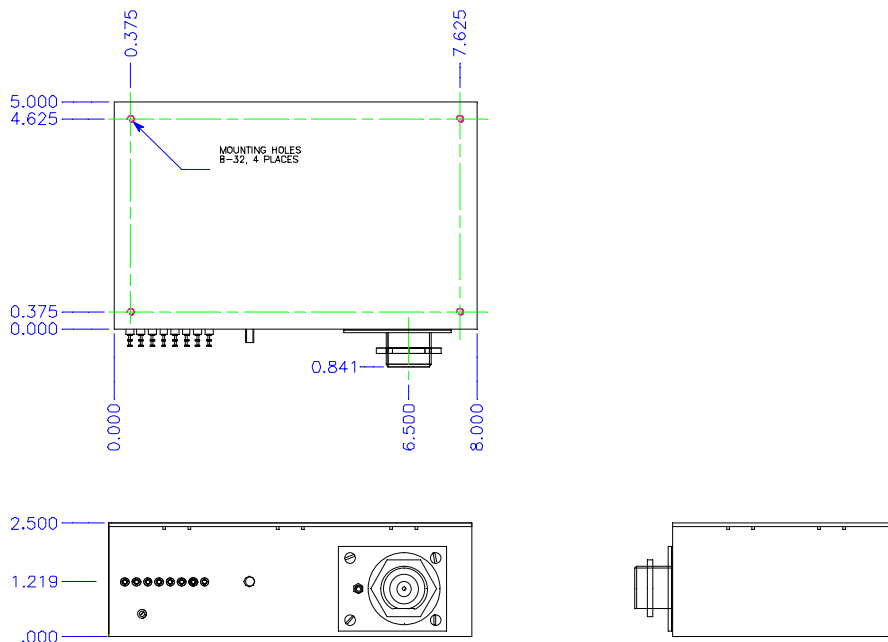

Fig. 2. Physical layout showing the placement of mounting holes on the bottom panel of 2592 power supply
2.5" H, 5.0" W, 8.0" D – see Figure 2. Four mounting
holes at the bottom (UNC 10-32) see Figure 2